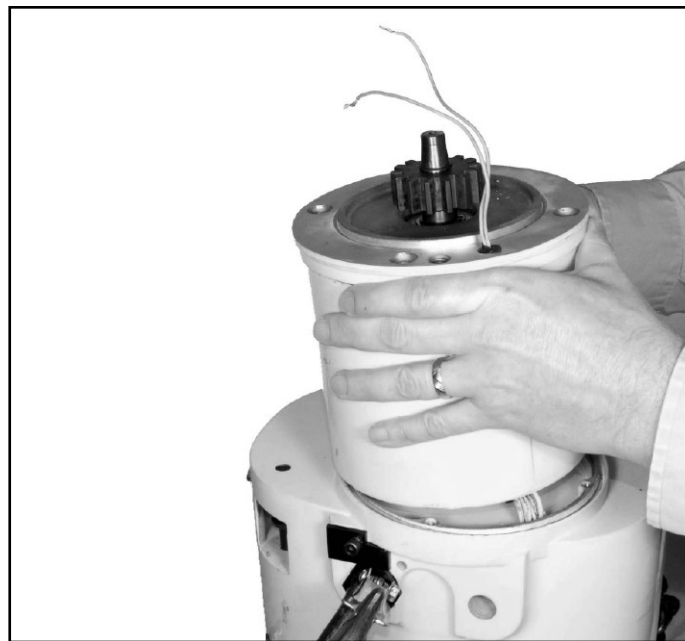

Figure 7-9. Removing Motor Assembly
(1) Place hoist frame on wood blocks to protect integral gear on motor shaft. Loosen four motor mounting bolts and lift motor assembly from frame (fig. 7-9). Guide motor leads through wire passage to avoid damage.